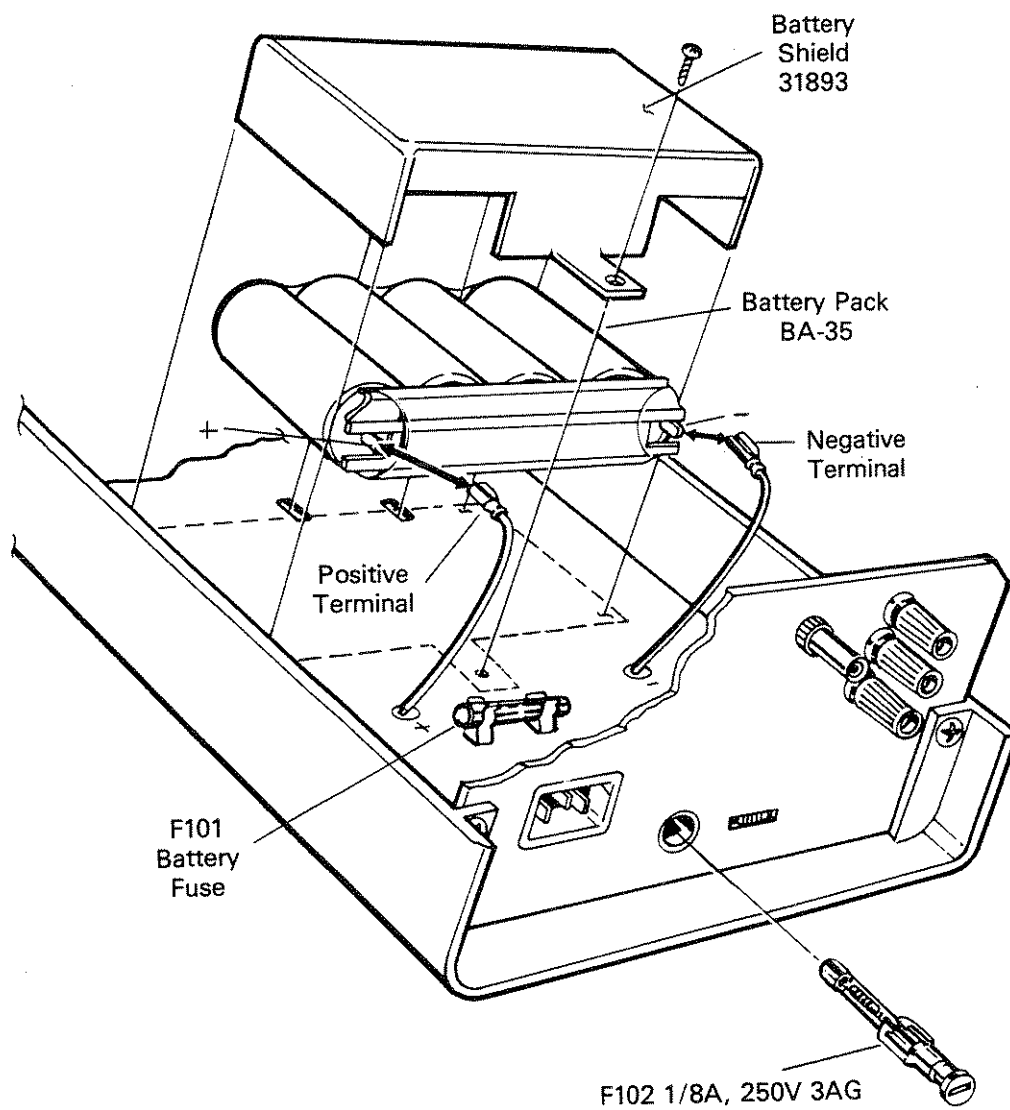

Figure 6-3. Battery Replacement
2. Disconnect the two power leads from the battery terminals as shown in Figure 6-3, by removing the negative lead first.